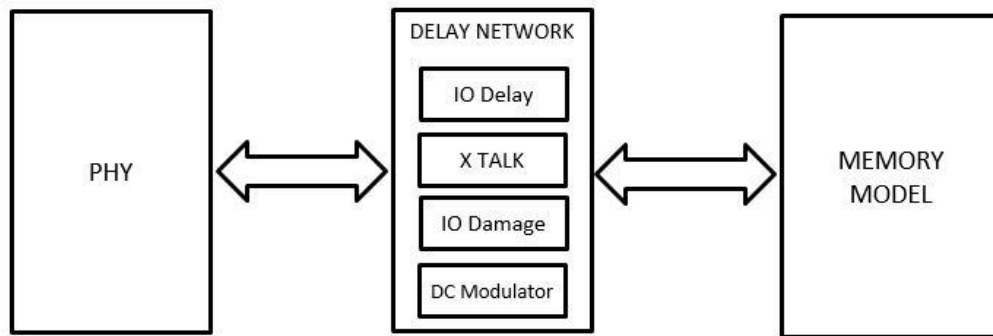

Figure 1: DV architecture with delay network UVC
DNM is integrated between PHY and external DRAM memory model (Figure 1) to mimic silicon, board artefacts. The DNM is completely parameterized and configurable to replicate the behavior of different DRAM devices in order to enable re-use across multiple projects/protocols. DNM consists of Duty Cycle (DC) Modulator, IO Delay Module, and Cross talk (X talk) Module, and Setup/Hold Time (IO Damage) Module.